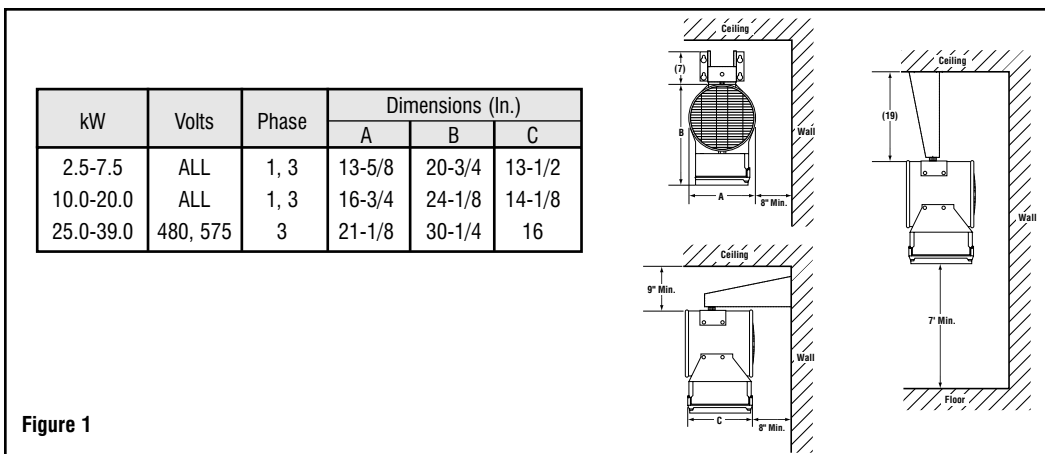

Figure 1
Keep at least 5' clearance in front of the heater. Refer to Figure 1 for side, top, and back clearance requirements.
- For ceiling heights of 12 feet or less, maximum mounting height is determined by use of the mounting bracket offered for these heaters. Minimum spacing to ceiling is 9". (See Figure 1.)
C. In either case the minimum mounting height is 7 feet from floor to bottom of heater. (Figure 1)
2. Spacing to adjacent walls (See Figure 1).